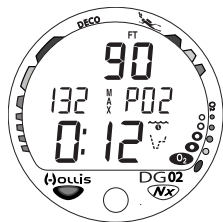

Fig. 31B - Oxygen Control
- If the O₂BG is displayed (Fig. 31B), it is calculated to be controlled by oxygen loading.